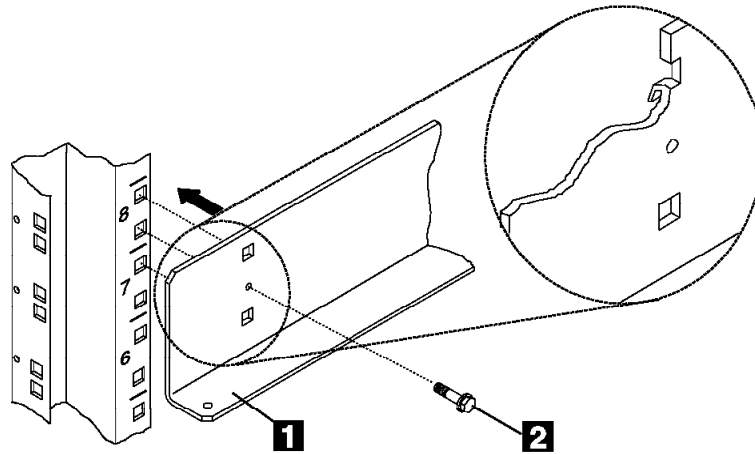

Figure 4. Bracket installation.
- ___ 3. Tighten using the four screws p/n 2665527 **2** (see Figure 4)